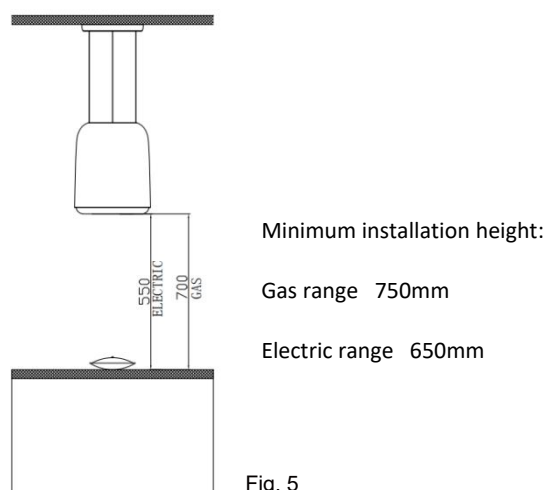

Fig. 5
- The extractor hood can be installed over any gas and electric cooktop. Minimum installation height from the bench top to the bottom of the hood is 750mm (gas range) and 650mm (electric range). Fig. 5